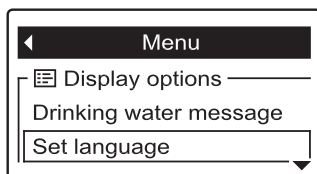

FIG. 102
1. Press the remote's SELECT (O) button to display a **Menu** screen.
2. Press the DOWN (▼) button to scroll through the menu options until **Set language** is highlighted in a box (See Figure 102). Press the SELECT (O) button.
5. Press the DOWN (▼) or UP (▲) buttons to scroll through the list to the desired language, then press SELECT (O) to choose it.
6. Press the SELECT (O) button. The display will go back to the menu shown in Figure 102, in the newly set language.